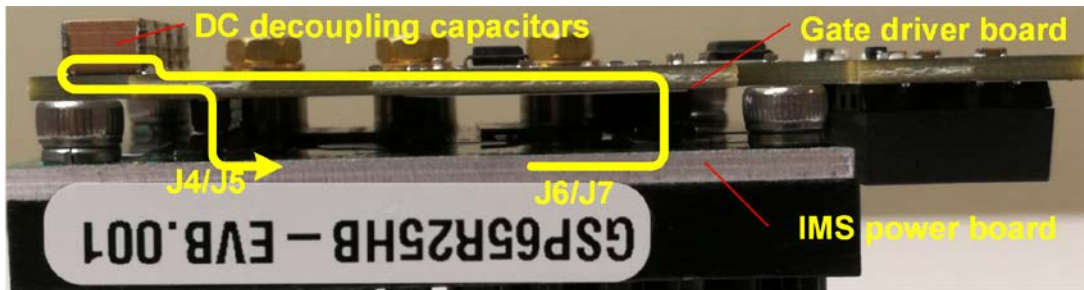

Figure 9 - Cross section view of IMS assembly showing the power Loop path
- While a large copper area is preferred to maximize heat spreading and handle high current, the area of copper at the switching node (high dv/dt) needs to be minimized to reduce the parasitic coupling capacitance to the metal substrate. An IMS board with thicker dielectric layer (100um) was chosen on this design to further reduce this effect. Refer to Figure 9 for more detail.